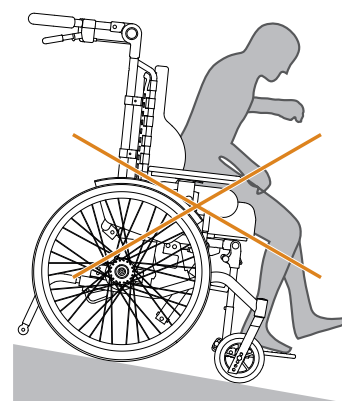

Figure 49. Sloped surface
- When driving down a slope ensure that the user cannot slide out of the wheelchair (Figure 49).